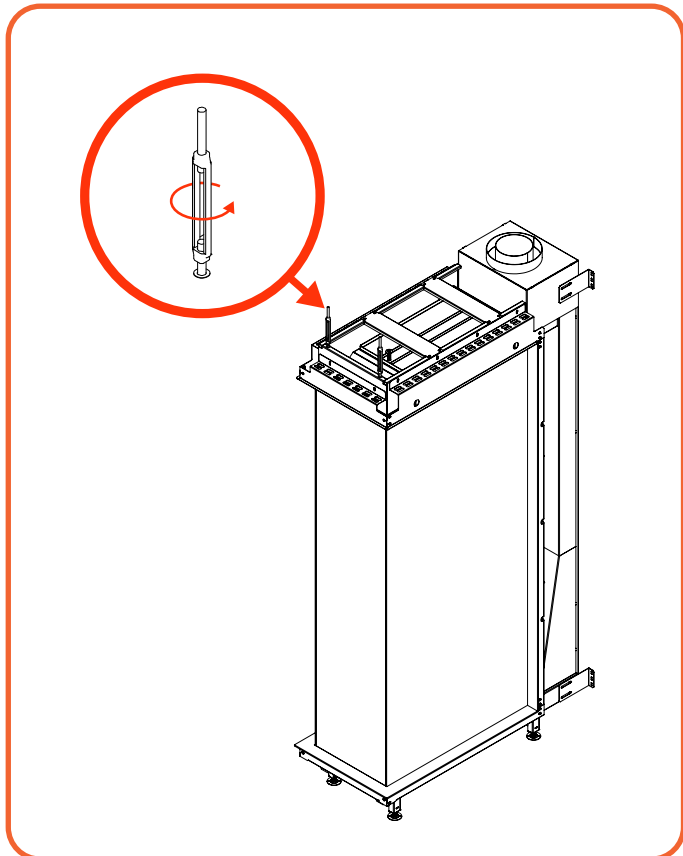

Figure 7.6 - Specific distances
7.5.1 Line set access (see Figure 7.6)